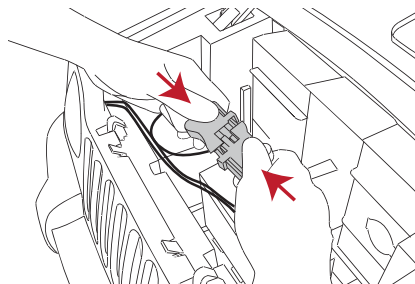

Figure 24
- Find the battery wires and connect the battery charger clip to the battery wire clip. Push the clips together securely. See Figure 24. Plug the charger into a standard 120 volt outlet.